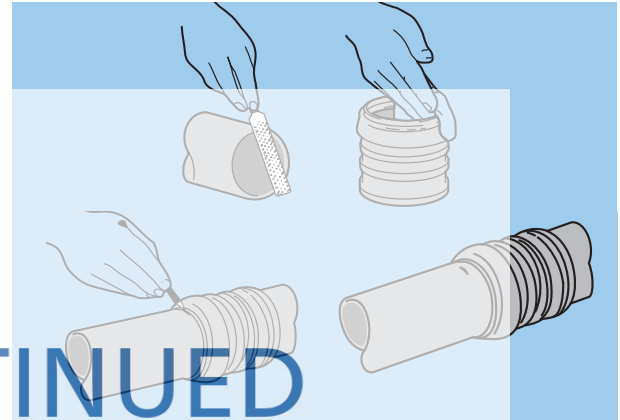

Fig.25
- Push pipe fully into socket. Mark pipe as shown (Fig.25)